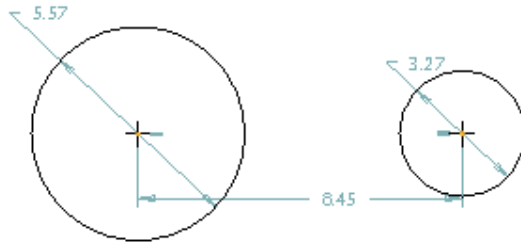

Figure 2-34 Two circles with weak dimensions and constraints
- Draw the sketch by using the sketcher tools, refer to Figures 2-34 through 2-37.
Figure 2-34 shows the two collinear circles drawn by using the **Center and Point** tool.